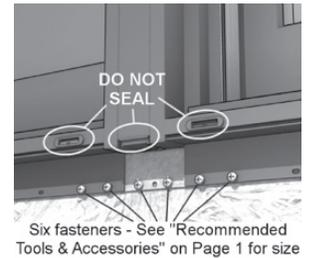

Figure 8
- (Required)** Follow steps 6 through 10 above (step 9 is recommended). For fastening the mull gusset plates, refer to the section *Recommended Tools & Accessories* box. Six screws are required on each gusset plate to ensure performance as labelled (**Figure 8**).
- (Required)** On the exterior, be careful not to seal the mull caps when siding or flashing is applied (**Figure 8**).